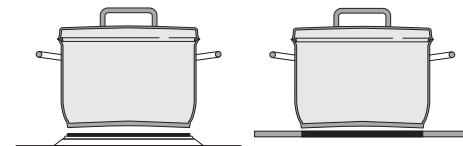

fig. 12
- The base of the cold pan should be somewhat concave, as the pan will expand on heating and will then make proper contact with the zone surface, thereby allowing an optimum transfer of heat (Fig. 12).